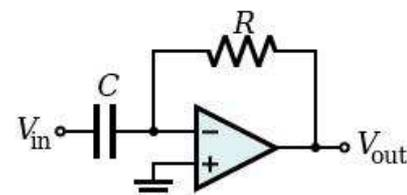

Figure 15
- 1- Construct the circuit shown in Figure 15 by using **$R=10K\Omega$ and $C=10\mu F$** .